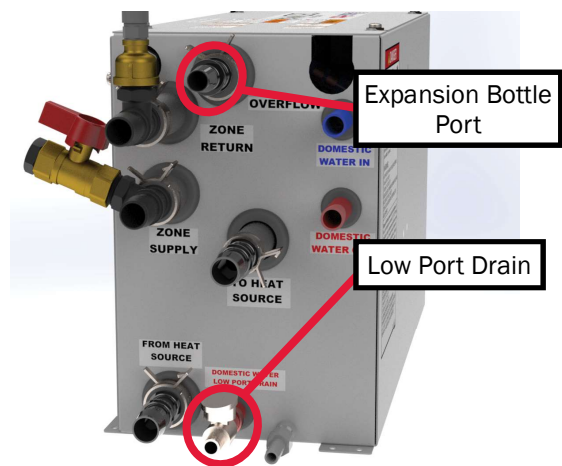

Figure 88
1. Completely drain the fresh water storage tank using the Low Port drain (Figure 88).